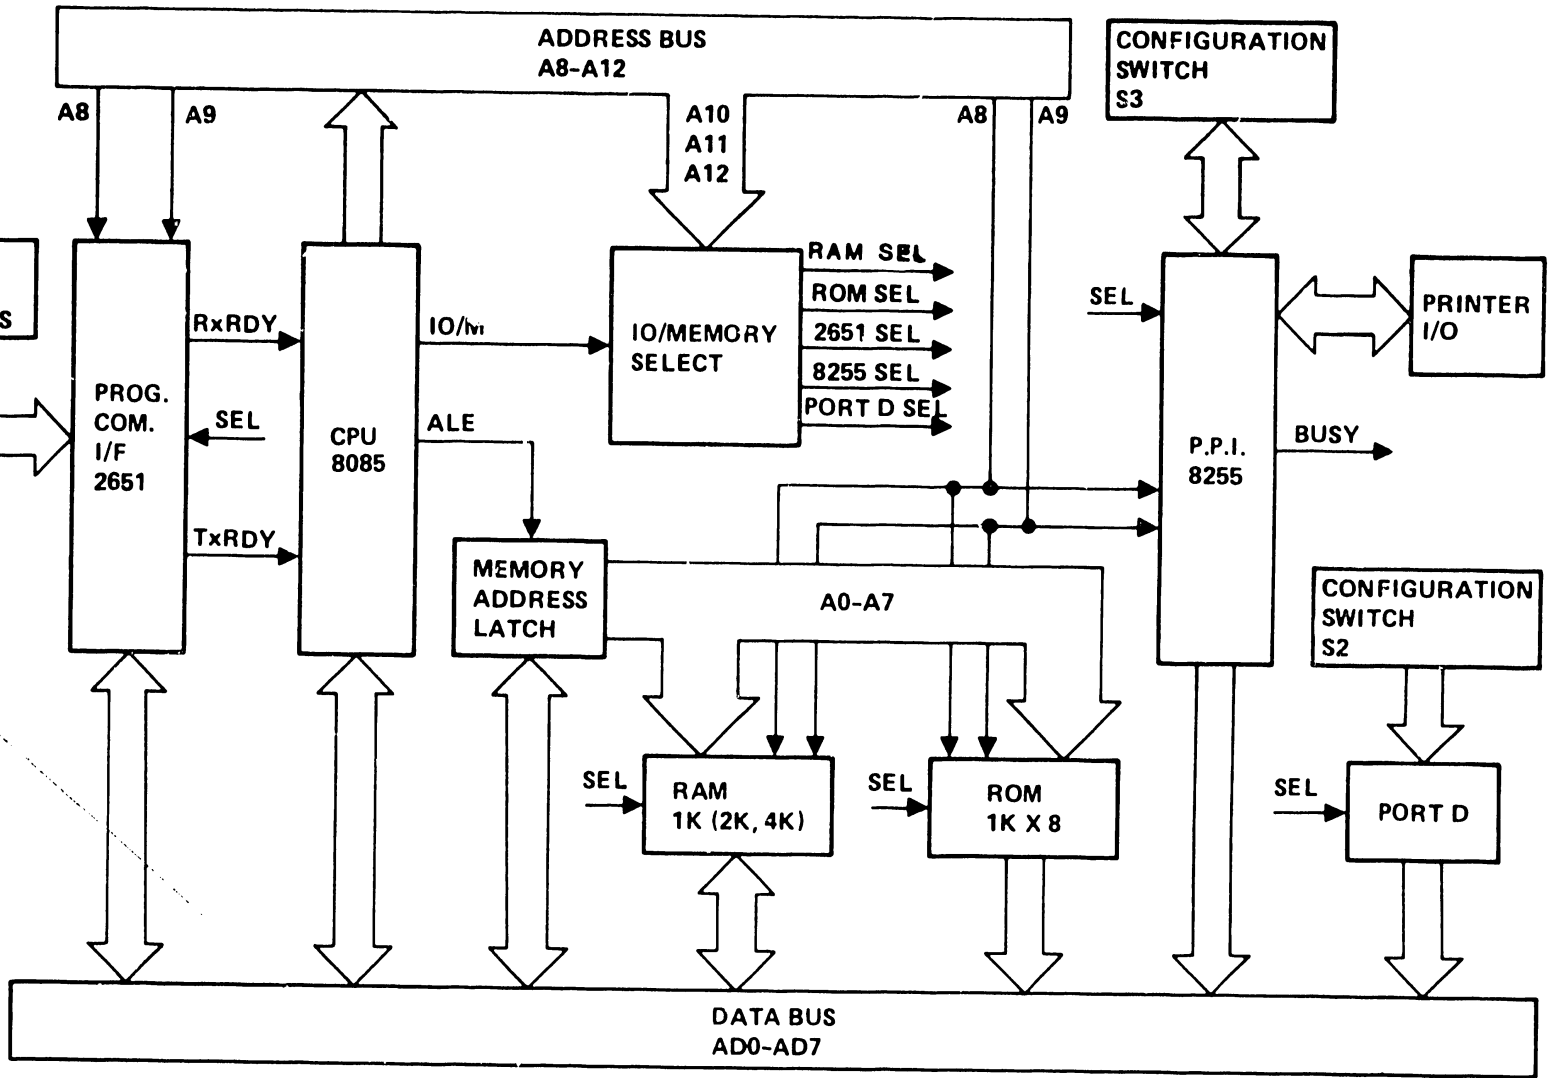

Figure 2-30. Serial Interface Block Diagram
(c) Major Integrated Circuit Devices - There are six (6) major devices used by the Serial Interface CCA. The function of each device is discussed in the following paragraphs. **Figure 2-30**, at the end of this section, provides a block diagram to summarize the operation of the following devices:
(1) 8085A Microprocessor - The Serial Interface employs the Intel 8085A-2 microprocessor (SH C2, U16) to control the flow of serial input data to the rest of the printer system. Through outputs A8-A12, WR*/RD*, and IO/M*, the microprocessor accesses and enables the 2651 Programmable Communications Interface (PCI), the 8255A Programmable Peripheral Interface (PPI), MEM1, MEM2, and the data RAMs of the various RAM data buffer configurations.
2. Operational Description - This section contains a description of the printer-recognized control codes, the communications protocols, and three (3) major operational routines. The operation of the Short Line Interface CCA or the Centronics-Compatible Interface CCA remains basically the same with the Serial Interface CCA installed. See figure 2-30 for data flow information.